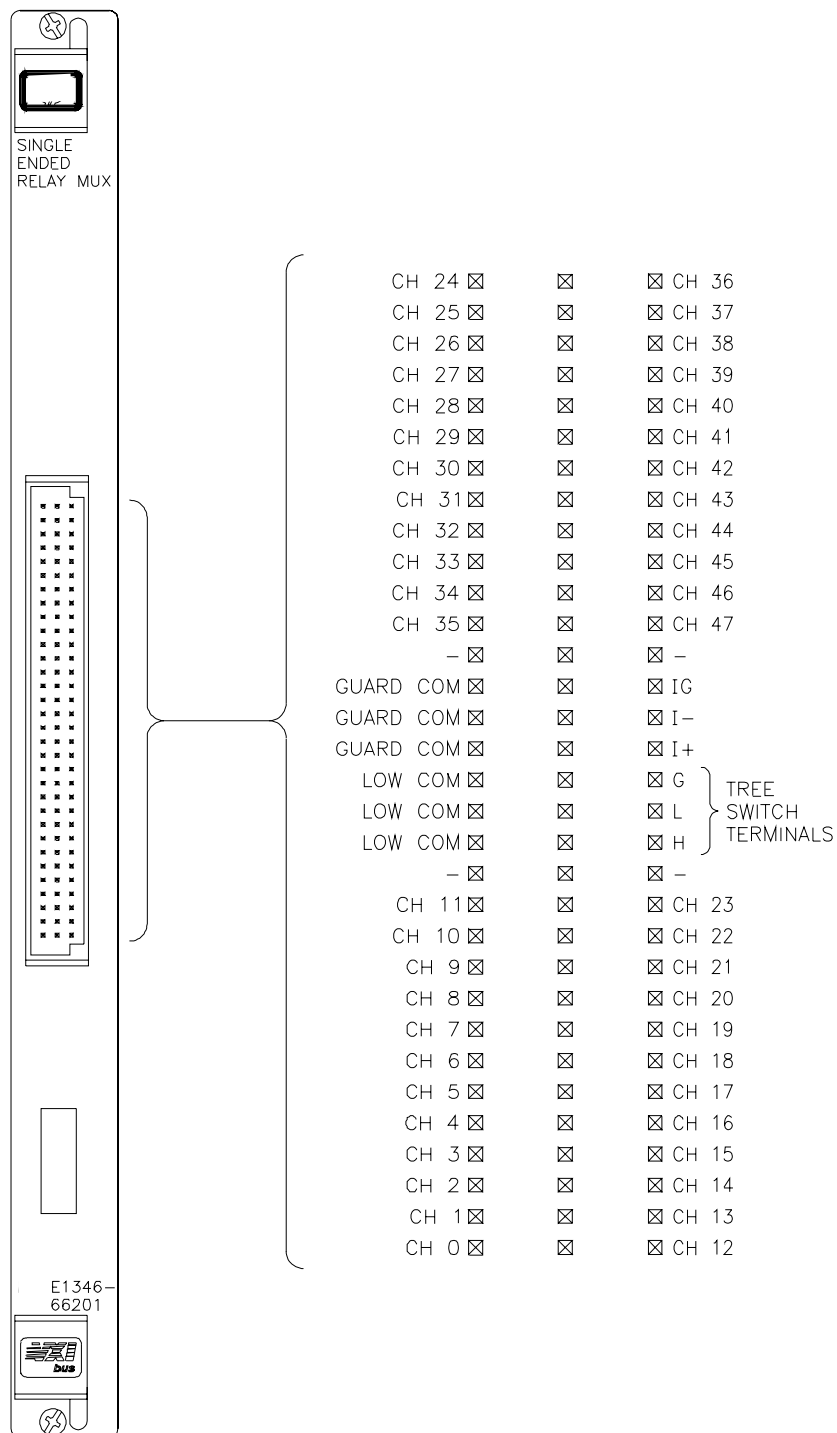

Figure 2-2. E1346A Front Panel and Connector Pin-Out
The Agilent E1346A consists of a relay modules and a terminal module. Normally you will use the terminal block supplied with the module. However, you may want to configure your own terminal block. Figure 2-2 shows the module front panel and the module's connector pin-out.
- Common Terminals of each terminal module connect to each other and to the multimeter in Figure 3-5. To connect the terminals to each other, use either the Analog Bus Cable (shown in Figure 2-2) or wire the terminals together between each terminal modules